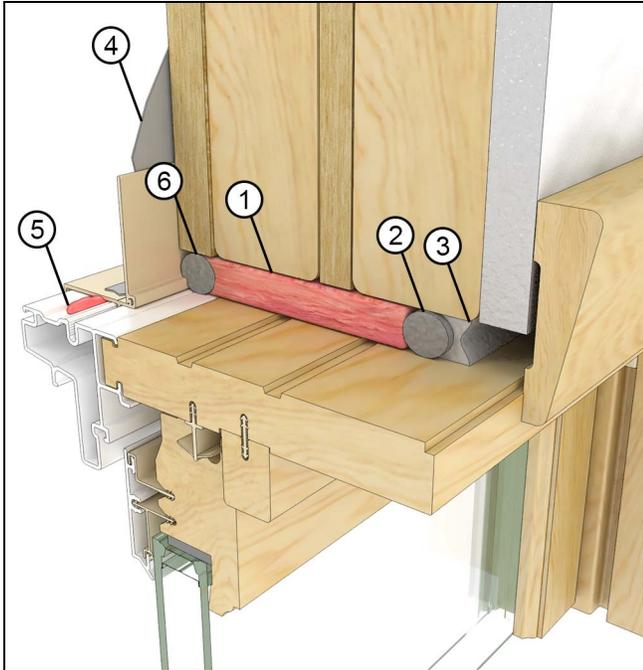

Figure 25
1. Loose Fill Fiberglass Insulation. Insulate the RO cavity with loose fill fiberglass insulation. Install a backer rod and sealant at the interior plane of the RO to create a continuous air seal. See Figure 25.